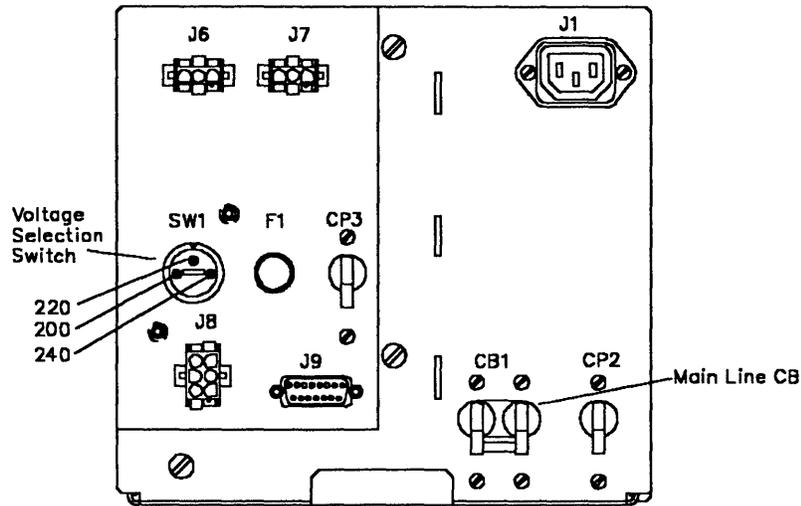

Figure 2-1. Primary Power Box (Front View)
- Step 4. ___ On the front side of the primary power box, set the voltage selection switch SW1 (see Figure 2-1 on page 2-2) according to the following table:
- Step 1. ___ Ensure that the customer's branch circuit breaker which feeds the 3745 receptacle is in the **OFF position**, and that CB1 is switched to **OFF** in front of the 3745 primary power box (see Figure 2-1 for location).
- Step 1. ___ Ensure that CP2 and CP3 are set to the **ON** position (refer to Figure 2-1 on page 2-2).